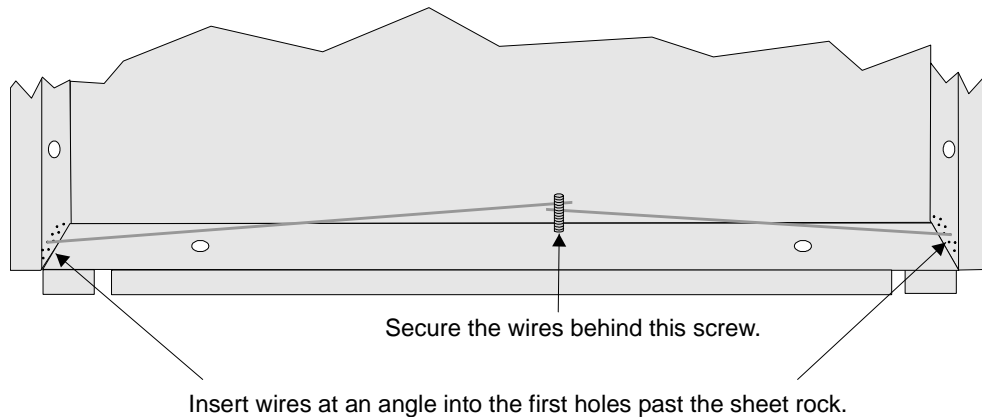

Figure 4-22 Flush Mounting the Backbox
3. Fit the annunciator backbox into the hole and stabilize with mounting wires. Angle the mounting wires into the first hole past the sheet rock. Secure the wires behind the screws as shown in Figure 4-22. When all four wires are in place, the backbox should fit snugly into the hole in the sheet rock.